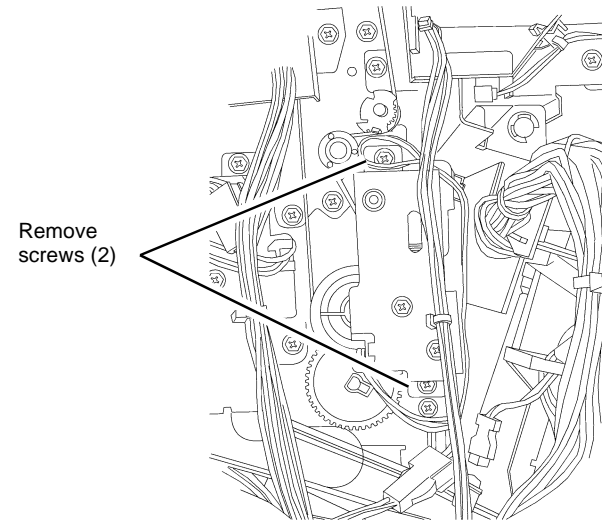

Figure 3 Removing the Transport Gate Solenoid Bracket
- 6. Remove the Transport Gate Solenoid Bracket (Figure 3).